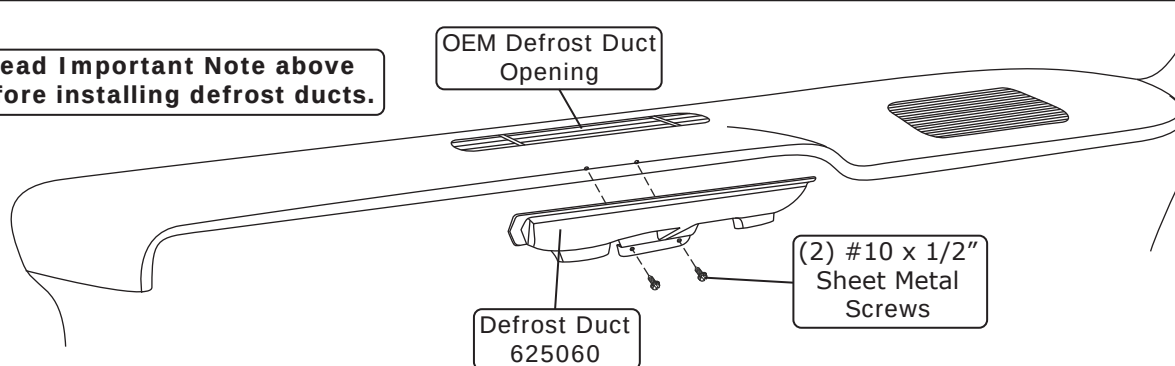

Figure 1
1. Install the defrost duct under the dash, aligning it with the OEM opening. Secure the defrost duct to the cowl using (2) #10 x 1/2" sheet metal screws (See Figure 1, below). **NOTE: Apply silicone to the screws to ensure a leak-free installation.**
1. Install (2) S-clips onto the center louver hose adapter as shown in Figure 1, below.